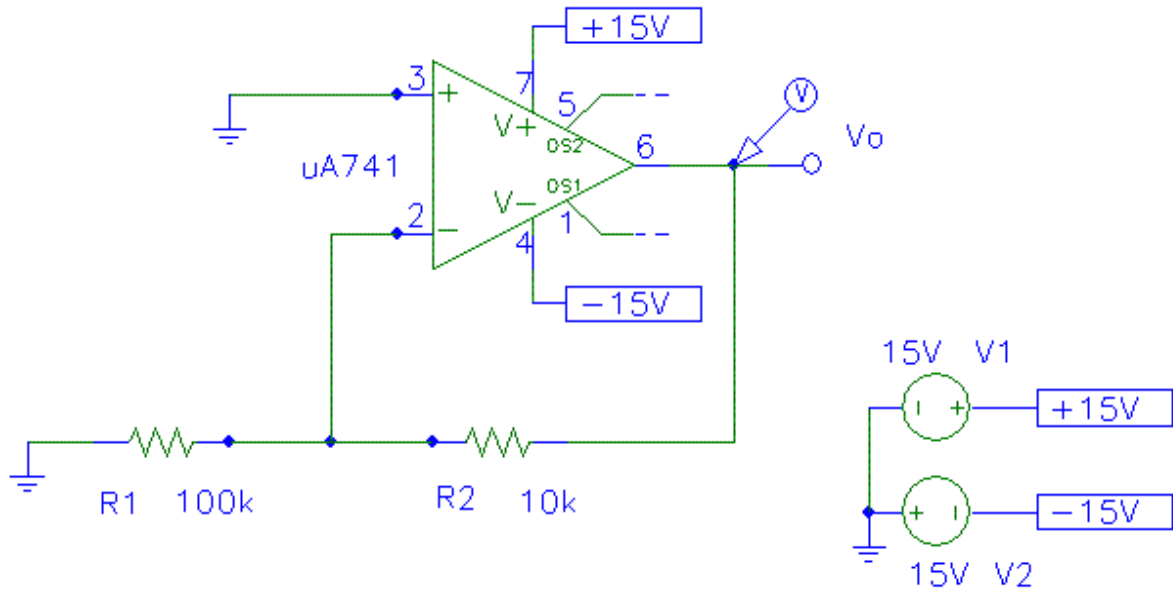

Figure 2.
1. First, assemble the circuit as shown in figure 2. Use 15V power supplies. Measure  $V_O$ ,
4. Short-circuit  $R_a$  and remove the short-circuit from  $R_-$ . Explain what has changed from the circuit in Fig. 2. Measure  $V_O$ , the output voltage at the output of the op amp. Calculate the input offset current corresponding to the bias current  $I_{b2}$ . Carefully explain how  $V_{OS}$  and  $I_{b2}$  contribute to  $V_O$ , the output voltage of the op amp.